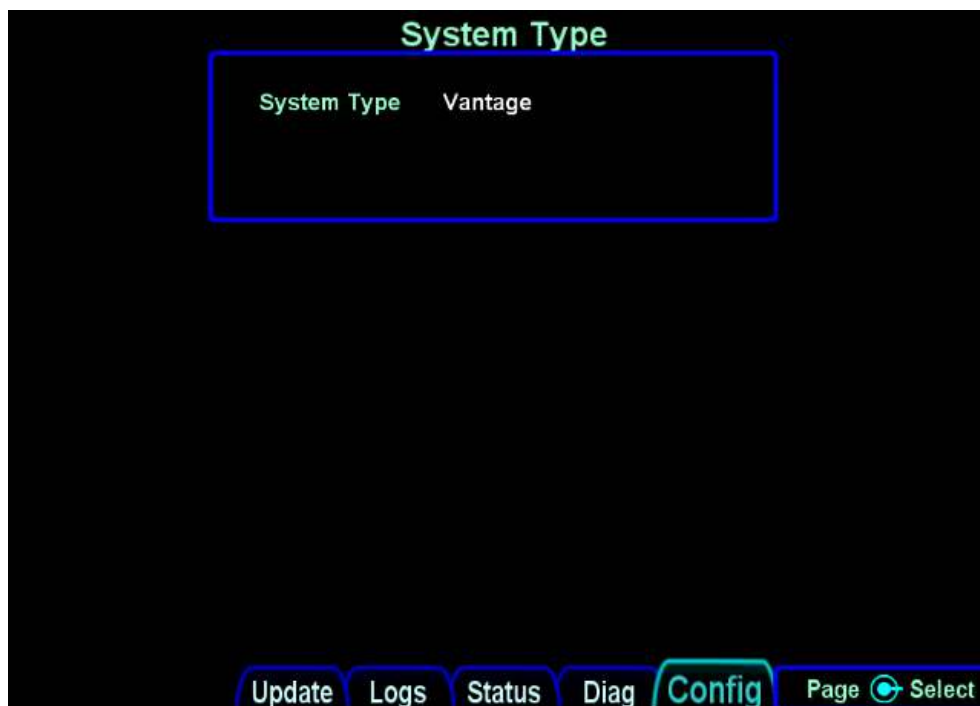

Figure 5-5: IFD System Type Configuration Page
3. If the System Type is set to “Legacy”, select “Vantage” as shown in Figure 5-5 and press the ENTR LSK.